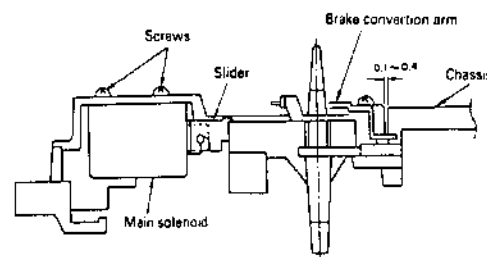

Fig. 76
1) Adjust the two (2) screws holding the solenoid so that the chassis guide is 0.1 to 0.4 mm when the solenoid is ON (the plunger moves in the direction of the arrow). Check that the clearance between the brake conversion arm and the main brake arm is 1.5 ± 0.3 mm when the main brake is compressed against the supply and take-up reel tables. (Fig. 76)